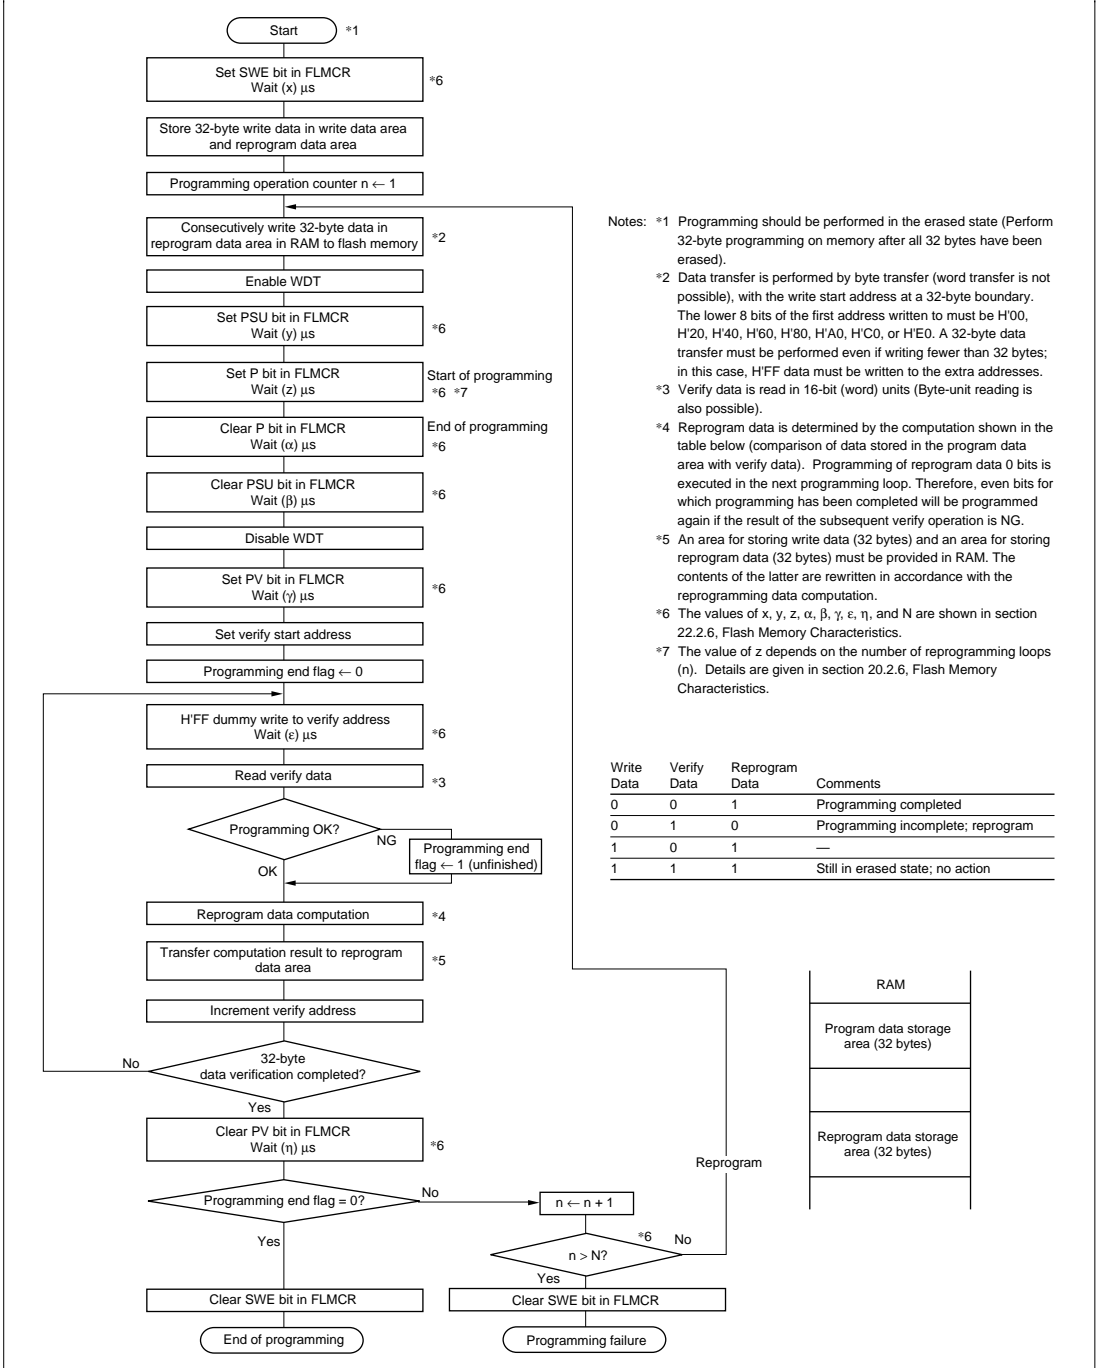

Figure 17.11 Program/Program-Verify Flowchart (32-byte Programming)
When writing data or programs to flash memory, the program/program-verify flowchart shown in figure 17.11 should be followed. Performing programming operations according to this flowchart will enable data or programs to be written to flash memory without subjecting the device to voltage stress or sacrificing program data reliability. Programming should be carried out 32 bytes at a time.
Clear the P bit in FLMCR, then wait for at least (α) μs before clearing the PSU bit to exit program mode. After exiting program mode, the watchdog timer setting is also cleared. The operating mode is then switched to program-verify mode by setting the PV bit in FLMCR. Before reading in program-verify mode, a dummy write of H'FF data should be made to the addresses to be read. The dummy write should be executed after the elapse of (γ) μs or more. When the flash memory is read in this state (verify data is read in 16-bit units), the data at the latched address is read. Wait at least (ϵ) μs after the dummy write before performing this read operation. Next, the originally written data is compared with the verify data, and reprogram data is computed (see figure 17.11) and transferred to RAM. After verification of 32 bytes of data has been completed, exit program-verify mode, wait for at least (η) μs , then determine whether 32-byte programming has finished. If reprogramming is necessary, set program mode again, and repeat the program/program-verify sequence as before. The maximum number of repetitions of the program/program-verify sequence is indicated by the maximum number of programming operations (N).